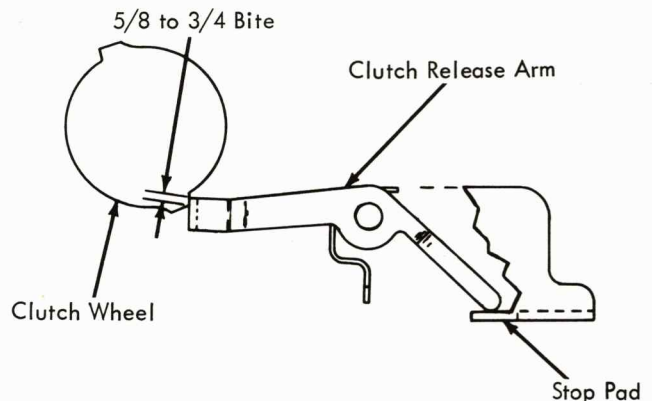

FIGURE 118. Stop Pad Adjustment
6. Clutch Release Arm Stop Pad (Fig. 118) - Form the stop pads so that with the clutch release arm at rest (against its stop pad) the clutch release arm has a 5/8 to 3/4 bite on the latching surface of the clutch wheel. This should be observed from the rear of the machine.